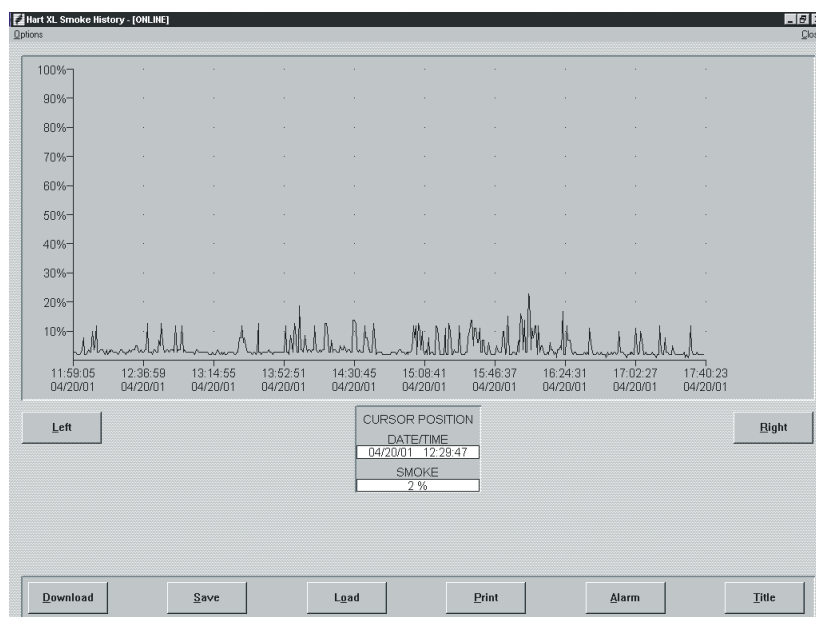

Figure 7-3. Smoke History Window With Data
5. When the download is complete, the smoke-level graph will display in the history window, as shown in Figure 7-3.